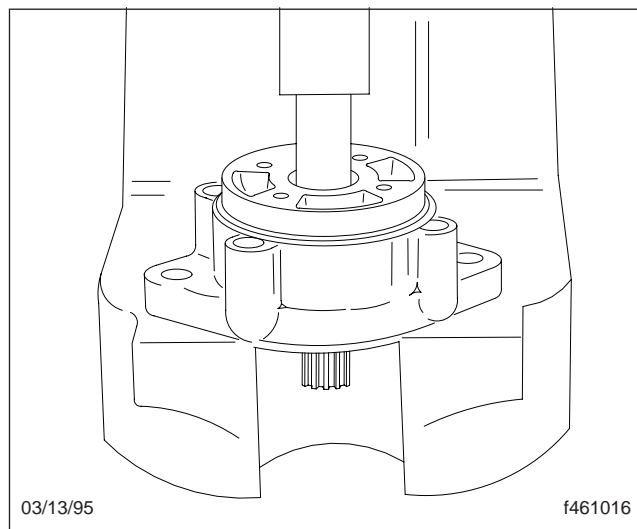

Fig. 20, Pressing the Needle Bearing out of the Cover
- 4.1 Place the cover in a press with the flange side down. Using an 11/16-inch socket, press the needle bearing out of the cover. See Fig. 20.